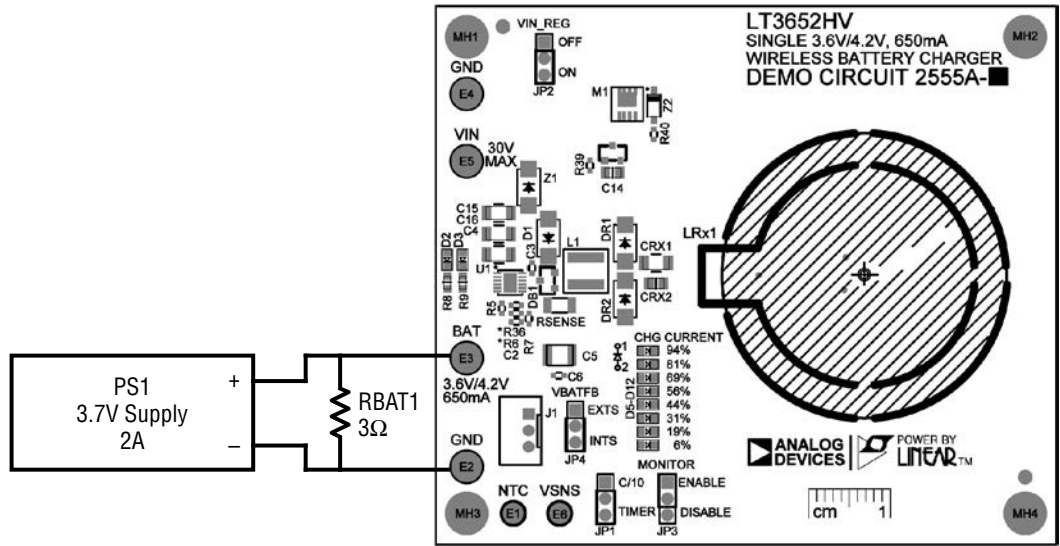

Figure 4. DC2555A-A/ DC2555A-B Connection
2. Connect a voltage source PS1 and a 3Ω resistor RBAT1 in parallel between the BAT and GND turrets of DC2555A (Figure 4). PS1 and RBAT1 make up the battery emulator. Typical power supplies cannot sink current. By adding a resistor across the power supply inputs that draws more current than the maximum battery charging current, the power supply only sources current even when the battery charge current is at its maximum value.